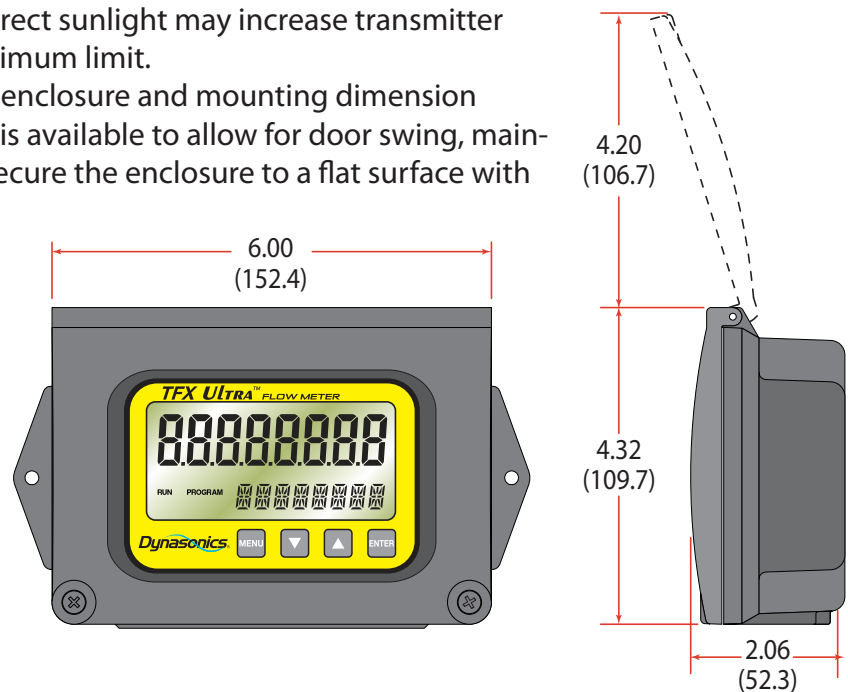

FIGURE 1.2 - ULTRA TRANSMITTER DIMENSIONS
- 3) Mounting - Refer to **Figure 1.2** for enclosure and mounting dimension details. Ensure that enough room is available to allow for door swing, maintenance and conduit entrances. Secure the enclosure to a flat surface with two appropriate fasteners.